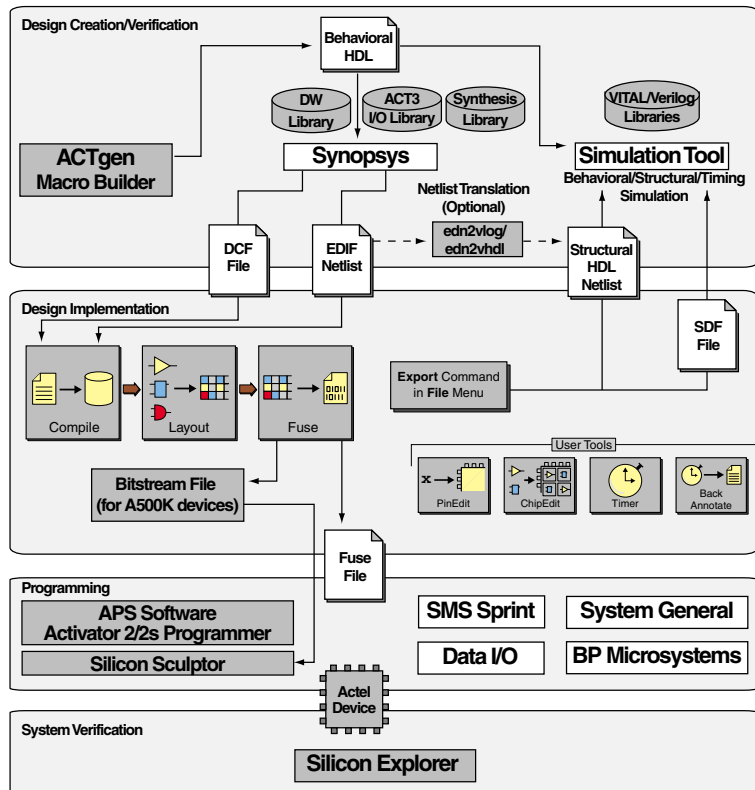

Figure 2-1. Actel-Synopsys Design Flow
Figure 2-1 illustrates the design flow for creating an Actel device using Synopsys Designer Series software¹.
1. Actel-specific utilities/tools are denoted by the grey boxes in Figure 2-1.